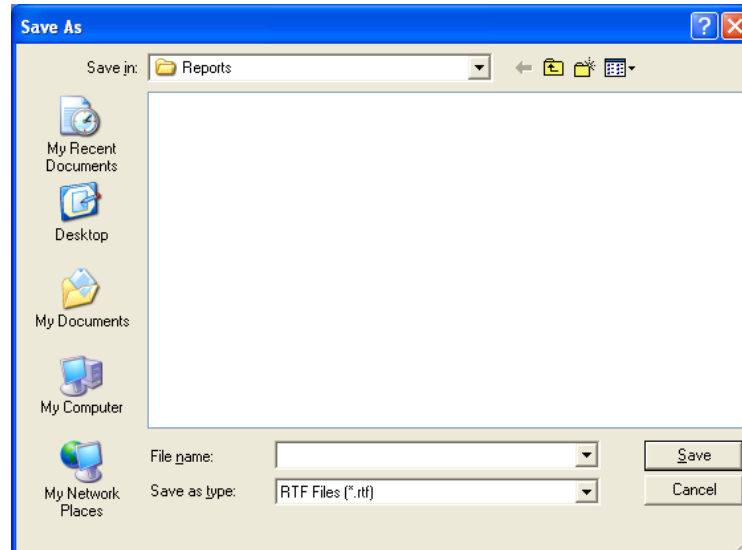

Figure 10-25
- To save the report on the screen, click the **Save to File** button or press *Alt+S*. The Save As box appears as shown in Figure 10-25. Reports are saved as an RTF file in Captus3000\Reports\ directory by default.